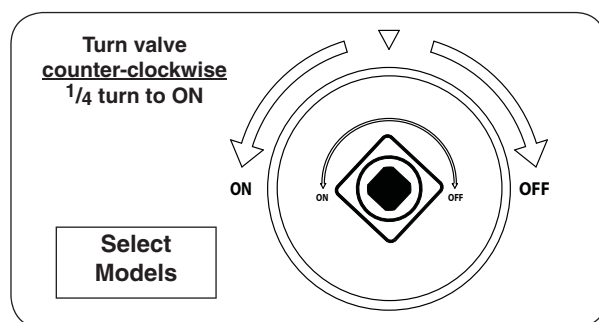

Fig. 43-2 ON/OFF key valve detail
2. If equipped, turn the ON/OFF key valve counter-clockwise a 1/4 turn to the **ON** position (Fig. 43-2).